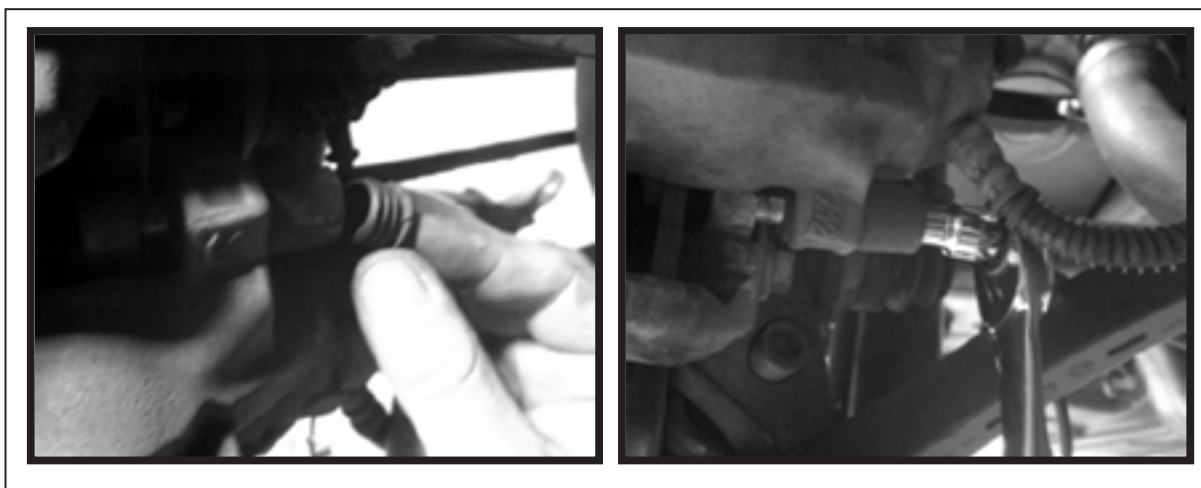

FIGURE 10-22
25.0 REMOVE CAP FROM CALIPER MOUNTING BOLT, LOOSEN BOLT. (FIGURE 10-22)